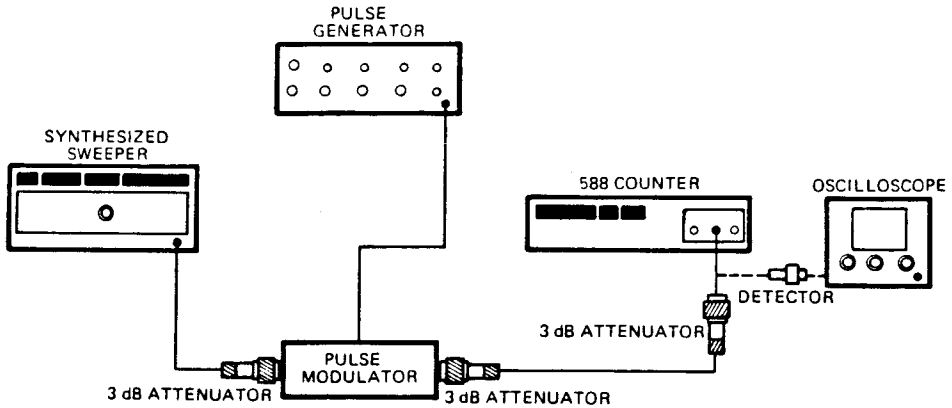

Figure 4-29. Pulse Period Accuracy
1. Connect equipment as shown in Figure 4-29. The 3-dB attenuators should be at the IN and OUT ports of the pulse modulator, and the input to the counter.